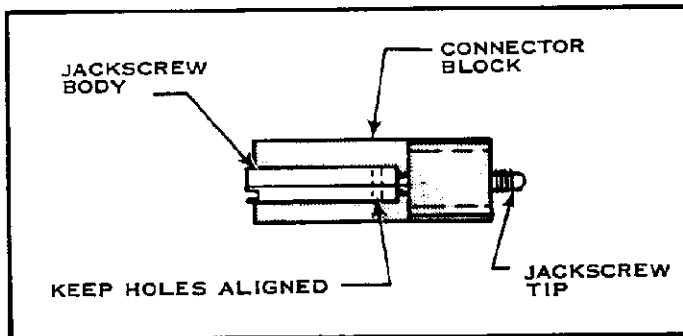

Fig. 2
- Insert Jackscrew Tip thru Connector Block and into Jackscrew Body. See Figure 2.
- Align hole in Tip with hole in Body. See Figure 2.